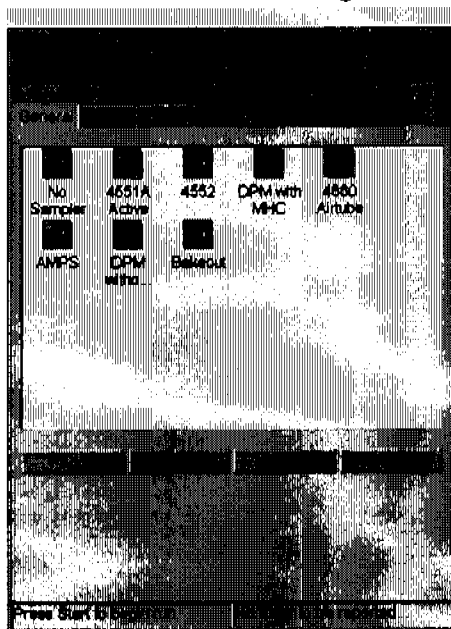

Figure 3.9. General configuration screen
1. Press the **Config** icon to access the General configuration screen (Figure 3.9).